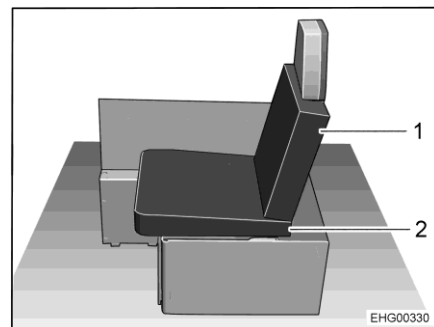

Fig. 35 After conversion
- Place one of the seat cushions of the left-hand divan as seat cushion (Fig. 35,2) on the bench seat. Note the wedge shape of the seat cushion: The seat cushion must be slightly inclined towards the backrest (see Fig. 35).
- Attach one of the included additional cushions as back cushion (Fig. 35,1) to the backrest of the attachable seat.